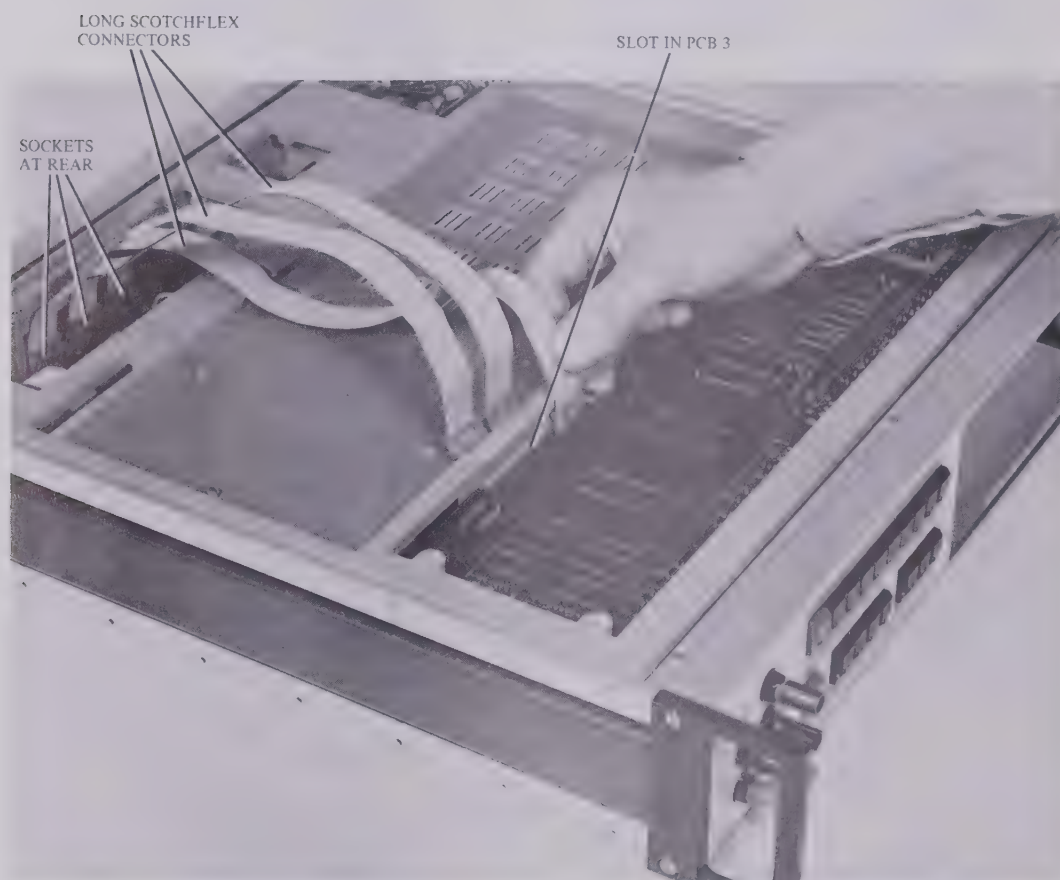

Fig. 3 Fitting the long Scotchflex connectors
10. Connect the other ends of the long Scotchflex connectors to the sockets inside the instrument at the rear. (These pass through the recess in pcb 3, underneath the instrument, and are correctly aligned with their respective sockets — see Fig. 3.)